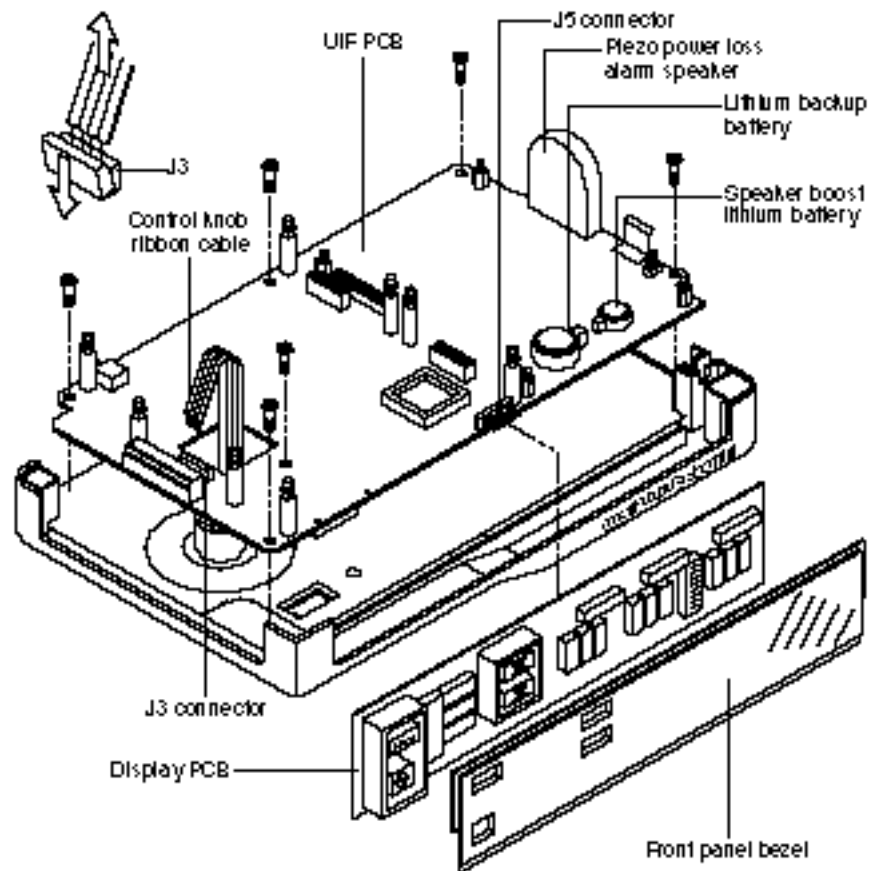

Figure 6-9: Display PCB and UIF PCB Disassembly
3. Remove the front-panel bezel by gently lifting it up and rotating it away from the Display PCB as illustrated in Figure 6-9.
3. Locate the lithium batteries on the UIF PCB (Figure 6-9). The backup lithium battery (the larger of the two lithium batteries) is used to supply backup power to the UIF processor if the lead-acid battery fails during DC use. It also supplies power to the piezo power loss alarm speaker during a microprocessor or power failure alarm. The other (smaller) battery provides additional voltage to power the piezo speaker.